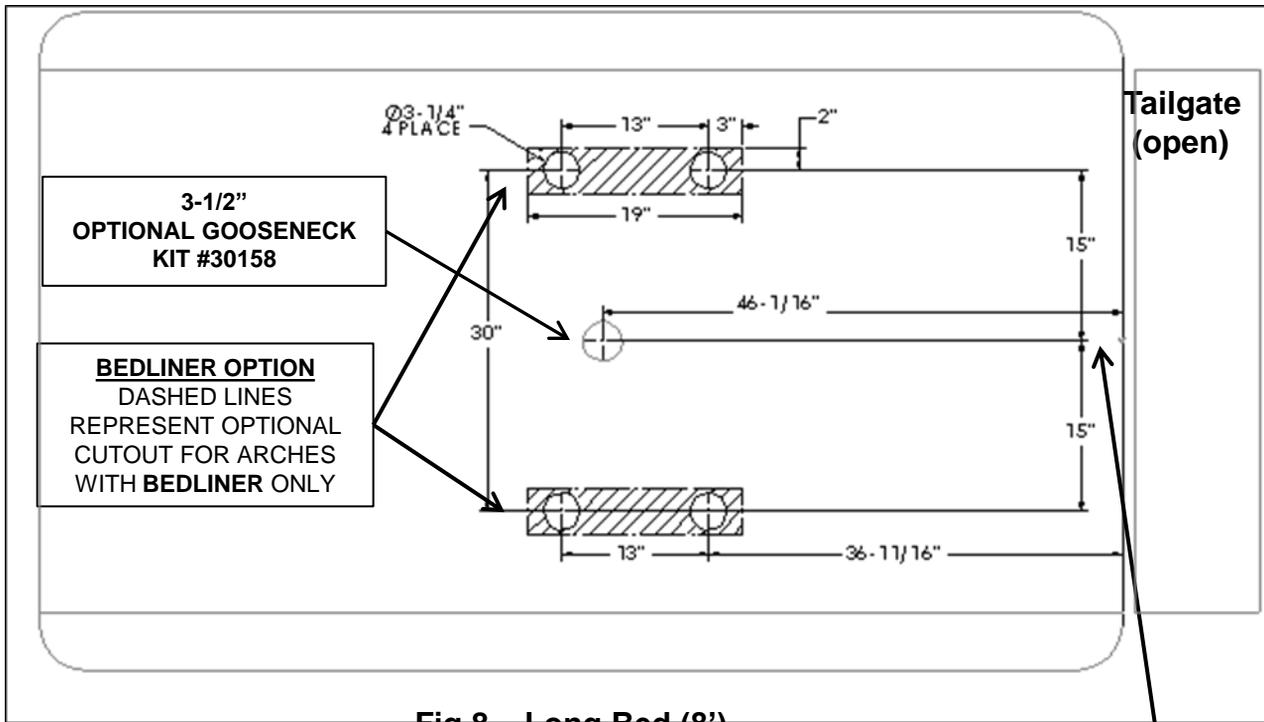
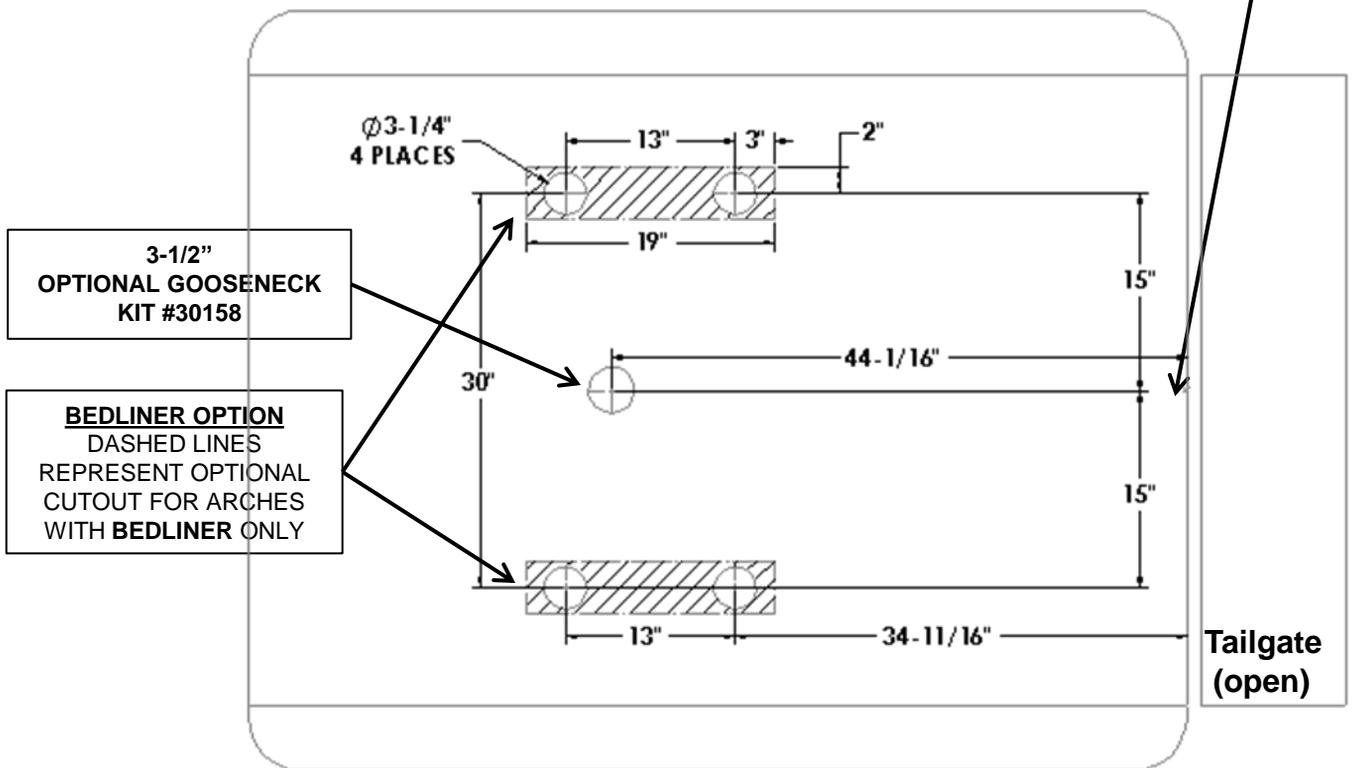

Fig 8 – Long Bed (8')
Fig 9 - Short Bed (6')
4. Using the drivers side edge of the bed corrugation, find the center of the truck bed. Measure the locations of the holes that will need to be cut using **Figure 8** (long bed application) **or Figure 9** (short bed application). If a plastic drop-in bed liner is used cut 19" X 4" slots in liner measured from center of holes in truck bed. **Remove plastic bed liner if applicable** . Spray-in bed liners and bed mats less than 1/4" thick will work with normal installation instructions. **Note:** Consult installer for recommended curing time on spray-in liner before cutting holes through bed. If the *RESESE® Elite™ Series* slider fifth wheel assembly is used, then see fifth wheel slider assembly instructions for slot cut dimensions.